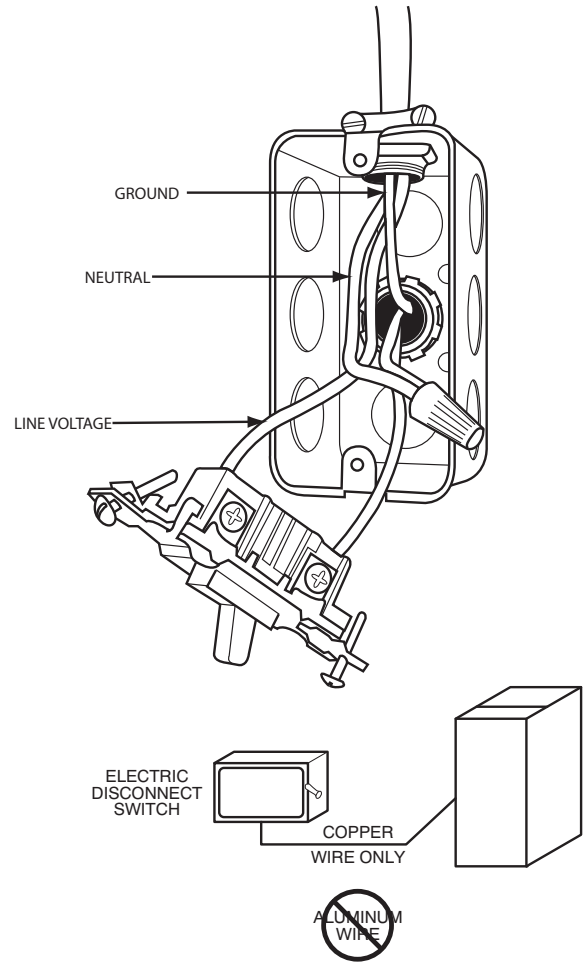

Fig. 35 - Field-Supplied Electrical Box on Furnace Casing
Do not connect aluminum wire between disconnect switch and furnace. Use only copper wire. See Fig. 35.
1. Fasten a field-supplied external electrical box to the outside of the casing by driving two field-supplied screws from inside electrical box into casing. See Fig. 35.
9. Complete external disconnect wiring and installation. Connect line voltage leads as shown in Fig. 35. Use best practices (NEC in U.S.A. for wire bushings, strain relief, etc., CANADA: Canadian Electrical Code CSA C22.1)